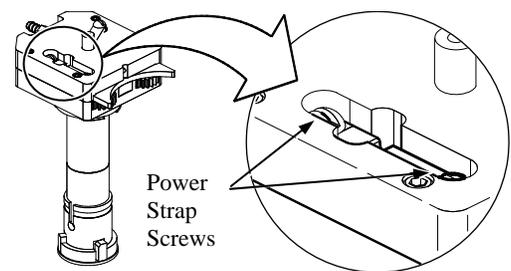

Figure 31 Inspecting the Power Strap Screws
11. Verify that the two power strap screws are tight. See Figure 31.